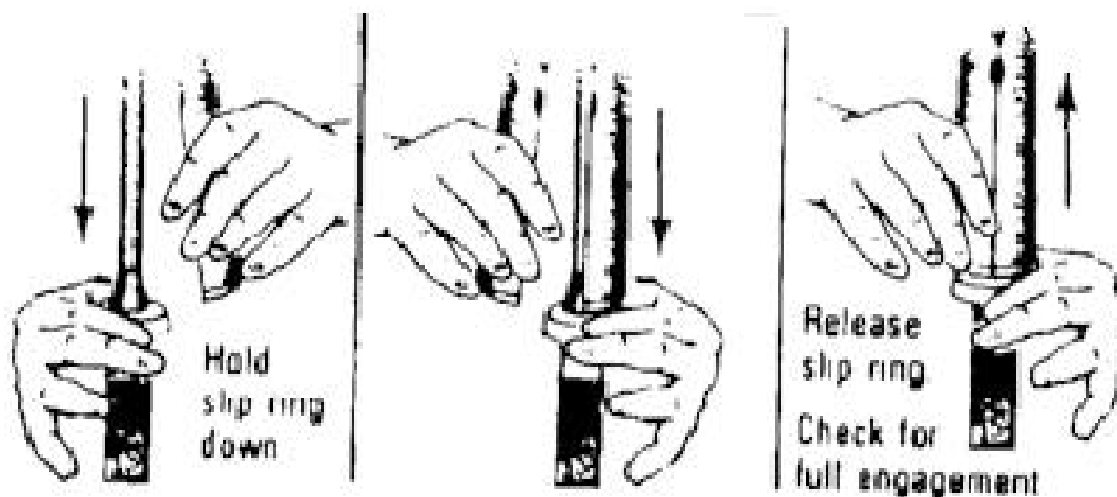

Figure E-38. Placing the handguards.
- o. Put the handguards in place (figure E-38).